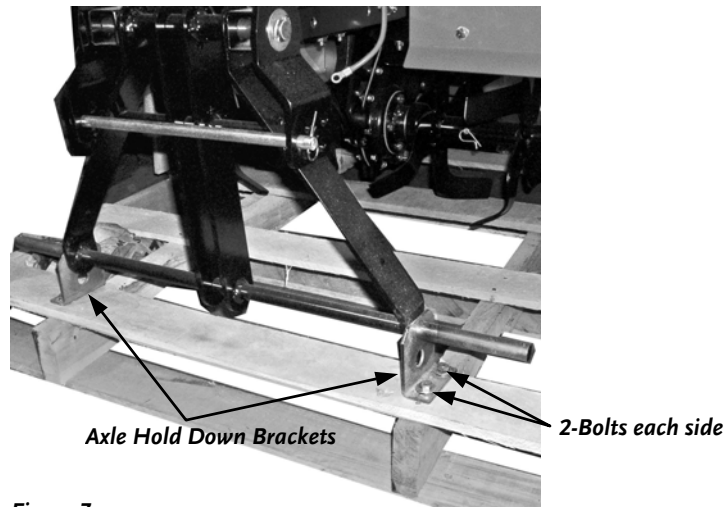

Figure 7
8. Using a 1/2" Wrench, remove the four (4) Bolts from the Axle Hold-Down Brackets at the rear of the shipping pallet (**Figure 7** on page 15) and remove the Bracket from each Axle.